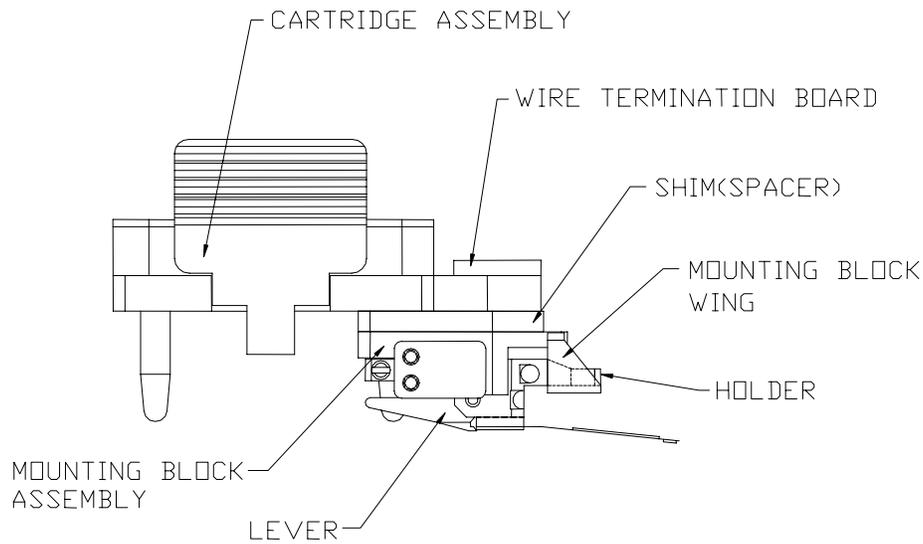
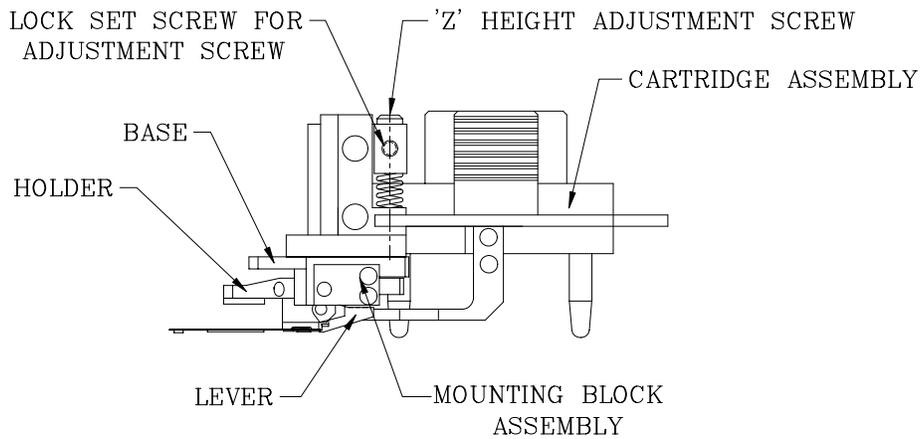

Figure 11. Camming Style Cartridge Components
Figure 12. 'Z'- Height Adjustable Camming Style Cartridge Components
Regular Camming Style Cartridge is shown in Figure 11, and 'Z'- height adjustable Camming Style Cartridge – in Figure 12.
When using the camming method, the knives must be removed and replaced with lifting wings. These wings must be adjusted parallel to the disk when the Head Loading Mechanism is in the “Loaded” position, and must be located directly under the Mounting Block Wing (refer to Figure 11).
- When the head is unloaded and there is a mechanical contact between Holder and Base surfaces, or between the rear edge of lever and the disk (see Figure 12 for reference).
- Move the Head Loading Mechanism to the “Unloaded” position adjust “Unloaded” set screws such that the heads are lifted from the disk, and neither the rear edge of the Lever touches the disk nor the surfaces of the Holder and Base are in contact with each other (refer to Figure 11 and Figure 12).